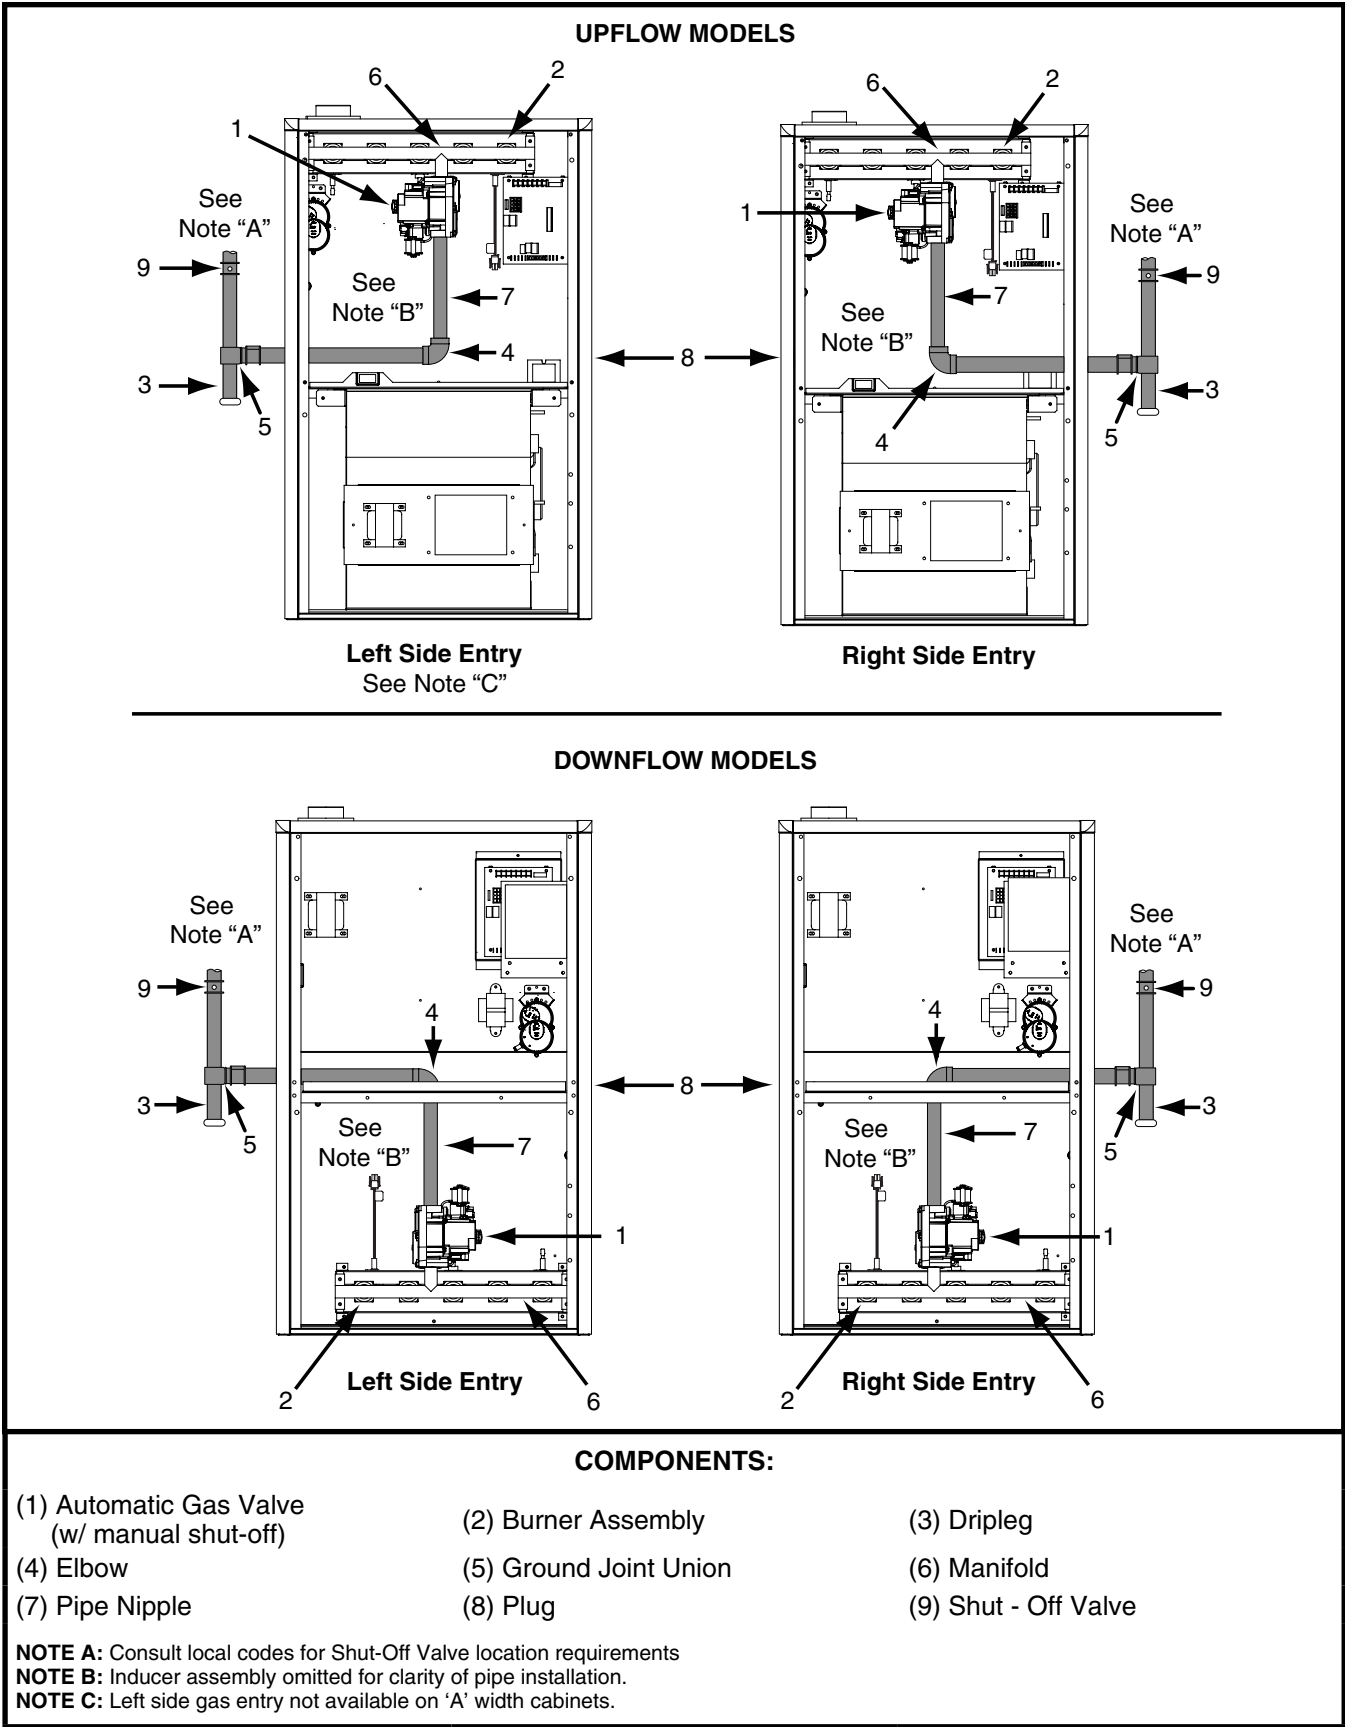

Figure 20. Typical Gas Connections
- Some local regulations require the installation of a manual main shut-off valve and ground joint union external to the furnace. The shut-off valve should be readily accessible for service and/or emergency use. Consult the local utility or gas supplier for additional requirements regarding placement of the manual main gas shut-off. See Figure 20 \(page 21\).
- A drip leg should be installed in the vertical pipe run to the unit. See Figure 20.
When connecting the gas supply, provide clearance between the gas supply line and the entry hole in the furnace casing to avoid unwanted noise and/or damage to the furnace. Typical gas hookups are shown in Figure 20.